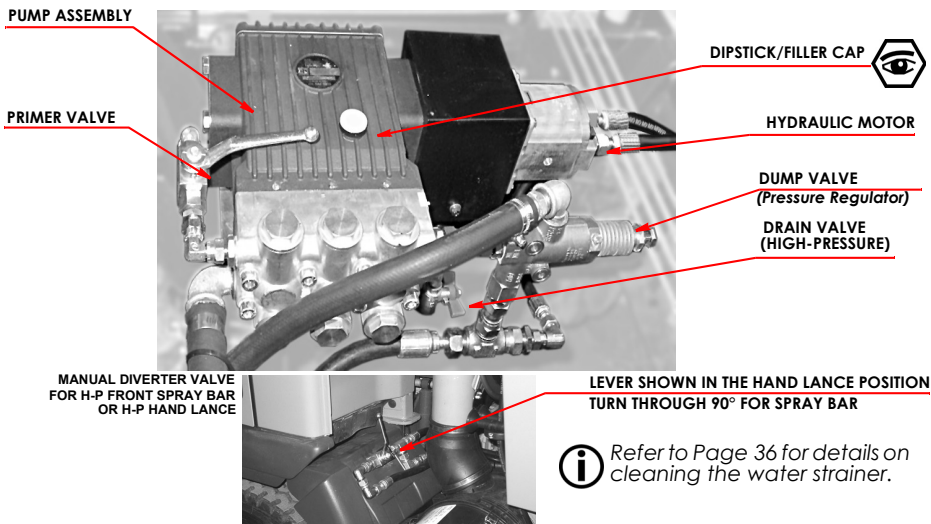

Fig. 13 Typical High-pressure Water Pump Arrangement
1. The level of the oil in the pump's crankcase should be checked on a regular basis (See "RECOMMENDED OPERATOR'S ROUTINE MAINTENANCE" on page 32.) and topped up as necessary. There is a combined filler cap/dipstick on the top of the pump body (Refer to Fig. 13).